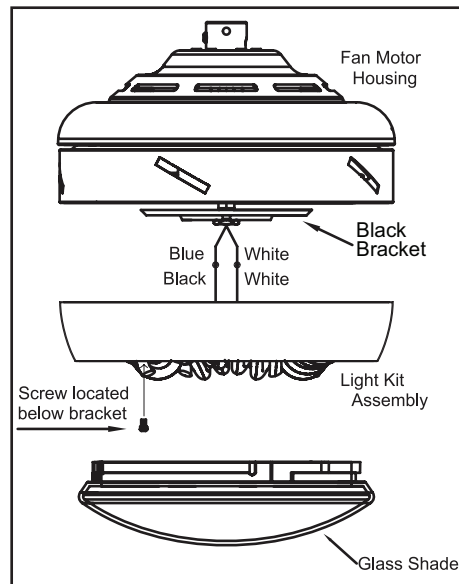

Figure 16
5. Attach the glass shade to the light kit assembly by aligning slots in top of glass shade with ridges in light kit assembly. Push glass shade up and twist to secure (Figure 16).